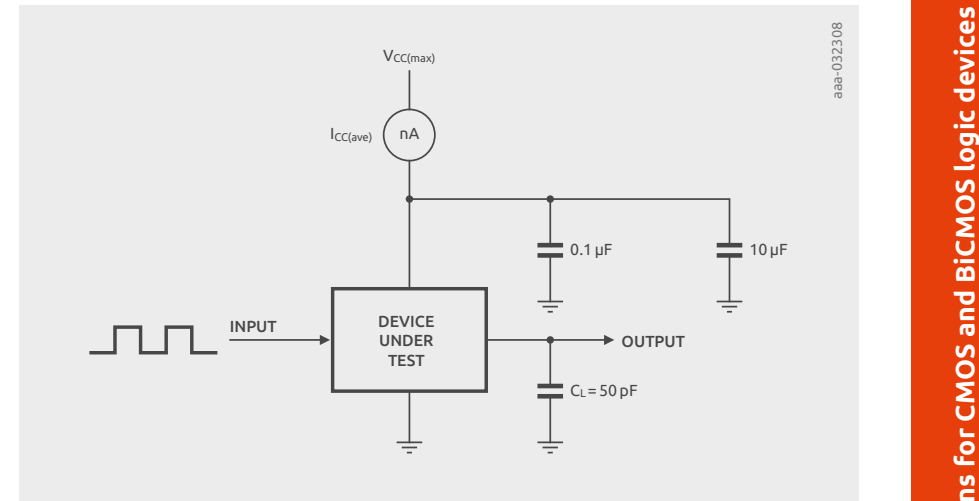

Figure 3.3 | Test set-up for  $C_{PD}$  determination
$C_{PD}$  is specified in the CMOS device data sheets, the published values being calculated from the results of tests described in this section. The test set-up is shown in Figure 3.3. The worst-case operating conditions for  $C_{PD}$  are always chosen and the maximum number of internal and output circuits are toggled simultaneously, within the constraints listed in the data sheet. Devices that can be separated into independent sections are measured per section, the others are measured per device.
In the case of 74LVC244,  $I_{STAT}$  is negligible and can be considered as zero for the purpose of  $C_{PD}$  calculation. The test set-up for the '244 as indicated in *Conditions for  $C_{PD}$  tests* was used, with the load shown in Figure 3.3. At  $V_{CC} = 3.6$  V,  $f_i = 10$  MHz;  $I_{CC(ave)}$  was found to be 2.24 mA.
In the case of 74LVT244,  $I_{STAT}$  cannot be considered as negligible at low frequency. As a result, a higher frequency is recommended for modeling its  $C_{PD}$ . The test setup depicted in Figure 3.3 has been used, however at a frequency of 30 MHz.  $I_{CC(ave)}$  was found to be 11.53 mA. We then apply Equation (5) with the assumption that  $I_{STAT}$  is negligible.